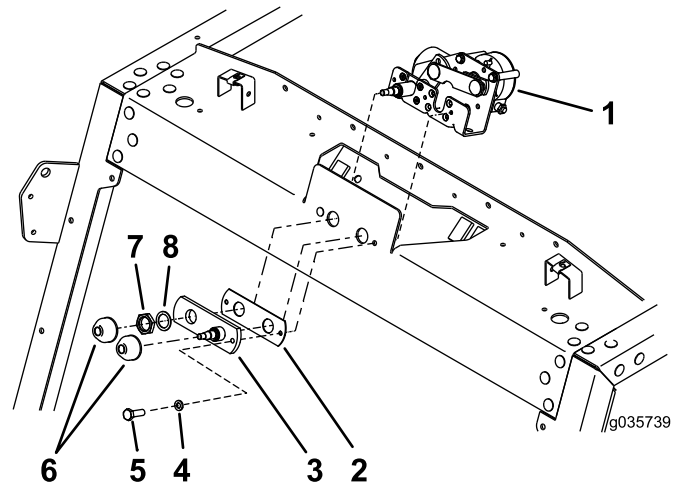

Figure 2
2. Remove the bolt and lock washer from the shaft assembly (Figure 2).
3. Remove the plastic caps, jam nut, washer, shaft assembly, and gasket from the wiper motor (Figure 2).
5. Push the motor shaft through the overhead hole (Figure 2).
6. Install the gasket and shaft assembly with the bolt and lock washer to hold the motor in place (Figure 2).